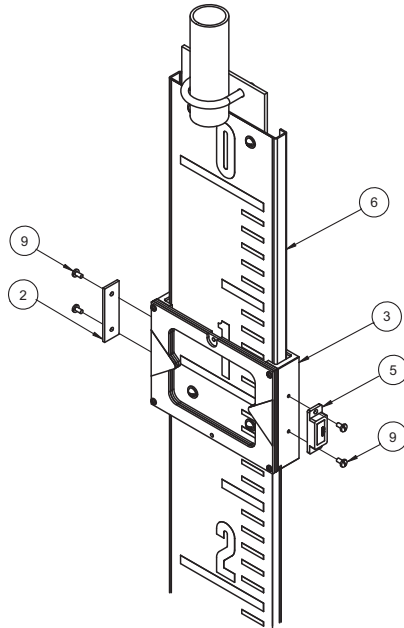

Figure 1 - Target and Counterweight Install
1. Mount the magnetic target and the counterweight on the 6700 indicator as shown in Figure 1. Use the included drilling template.